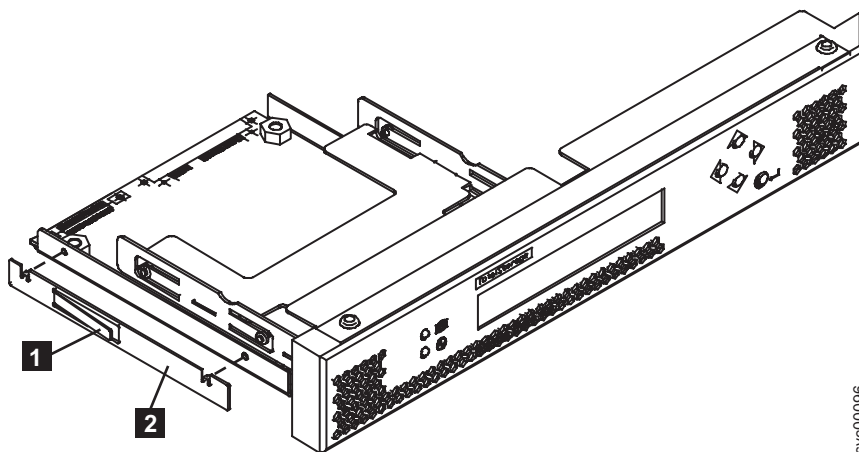

Figure 81. SAN Volume Controller 2145-8F2 or SAN Volume Controller 2145-8F4 service controller
4. Lift the cage assembly until the blue release latch (**1** in Figure 81) on the left side of the service controller assembly is accessible.